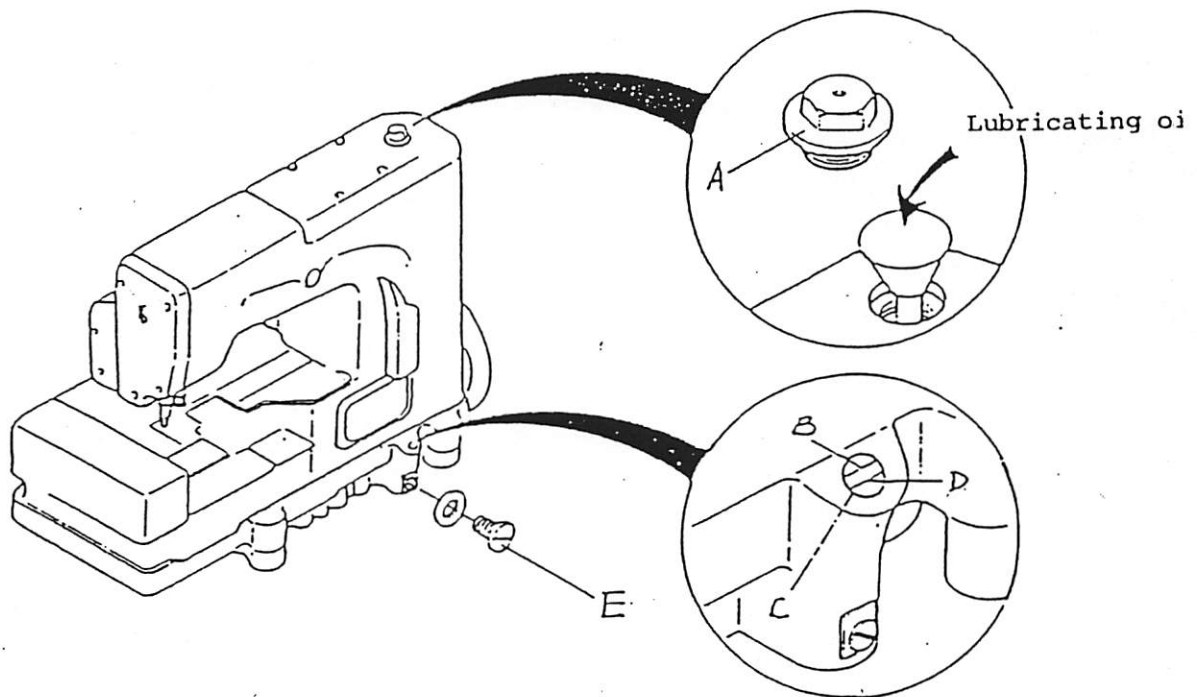

Fig. 1
3. Filling and Draining Method of Oil (Refer to Fig. 1.)